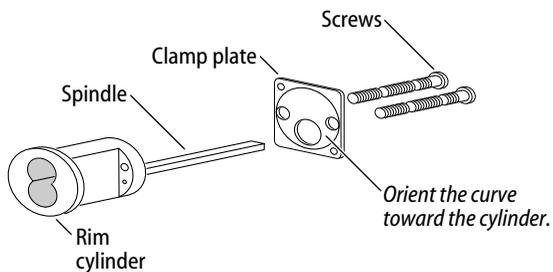

Figure 11b Rim cylinder components
- 3 Orient the cylinder and clamp plate as shown in Figure 11b. From the inside of the door, secure the cylinder using the clamp plate and mounting screws.